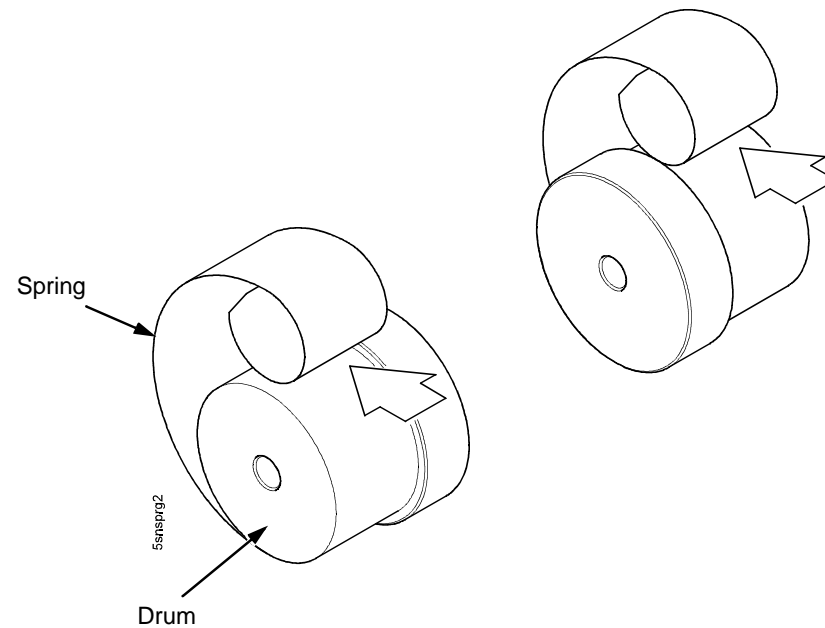

Figure 100. This figure shows how to unwind the constant force spring from the drum.
5. Lift the loose end of the constant force spring and let it curl up on the outside of the remaining spring and drum. (Figure 100.)
6. While holding the drum tightly, continue to curl the spring until it is completely unwound from the drum. (Figure 100.)